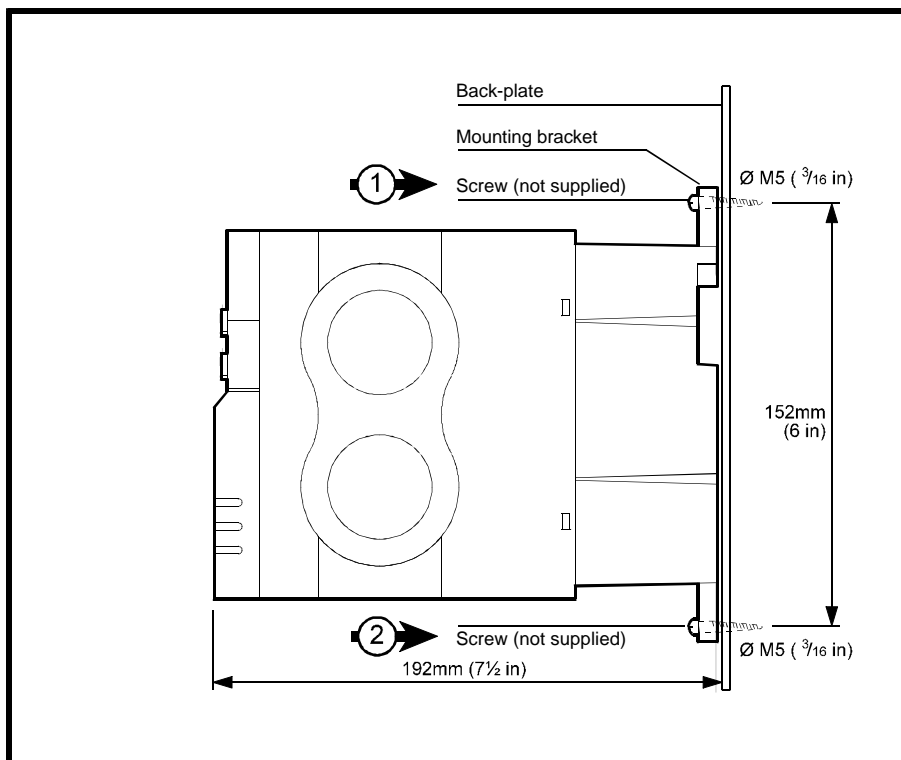

Fig. 4.11 Panel mounting the drive
4. Secure the drive via the Mounting Brackets to the back panel of the enclosure using the holes made in Step 3 above with two 5mm (3/16") screws (not supplied). (See Fig. 4.11 above.)